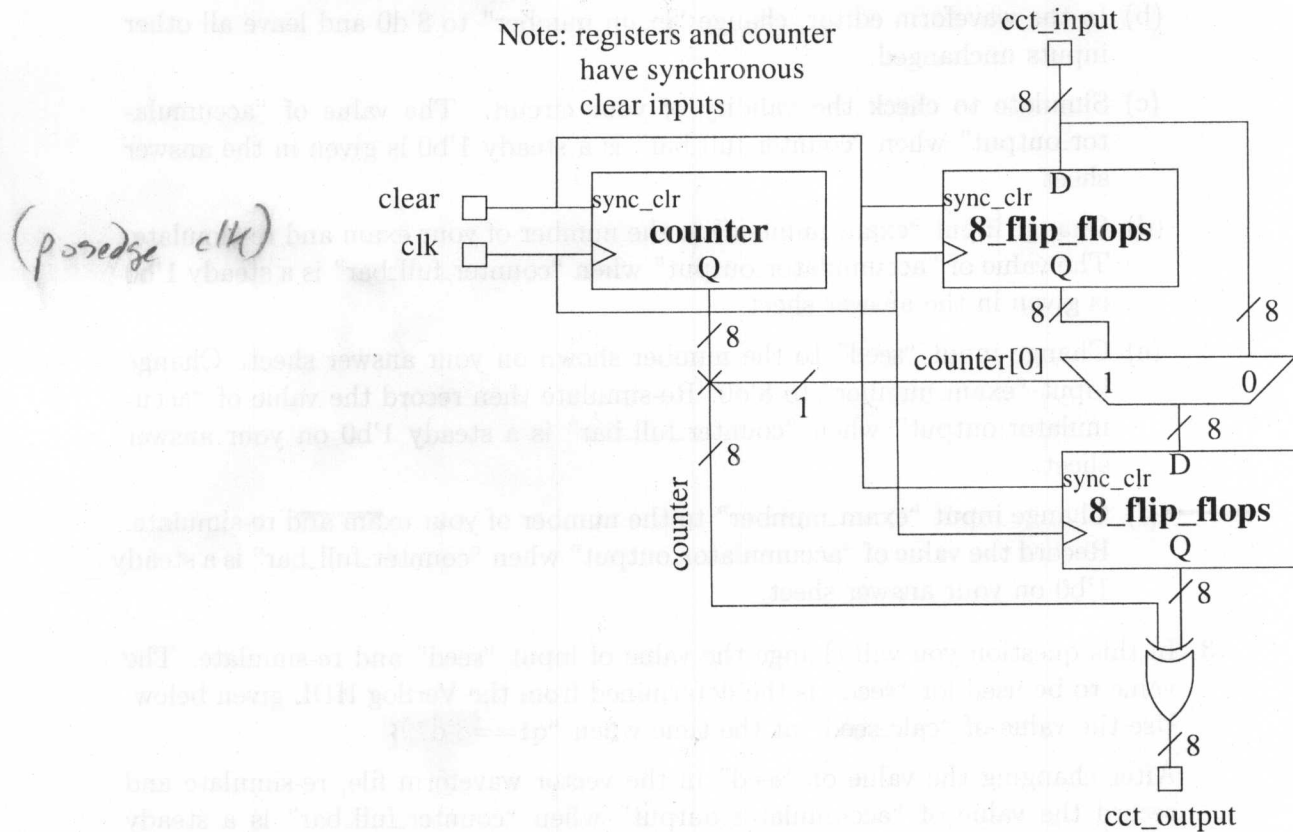

Figure 1: A block diagram of the circuit to be described in prototype "student_circuit".
- (3) 4. Change prototype "student_circuit" found in file "student_circuit.v" to make the circuit shown in Figure 1.